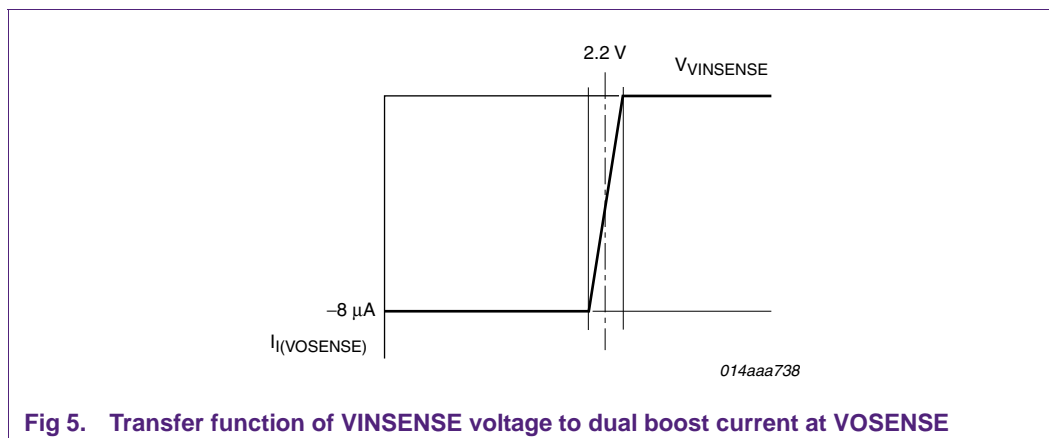

Fig 5. Transfer function of V\_INSENSE voltage to dual boost current at VOSENSE
The dual output voltage is controlled through an internal 8 μA current source at pin VOSENSE (see Figure 5). The mains input voltage measured at pin VINSENSE is used to control the internal current source. This current source, in combination with the resistors at pin VOSENSE, sets the lower PFC output voltage. At high mains, the current source is switched off. Therefore, the maximum PFC output voltage is not affected by the accuracy of the current source. In a typical application with a PFC output voltage of 350 V (DC) at high mains, the PFC output voltage will be 270 V (DC) at low mains. A voltage of 2.2 V at pin VINSENSE corresponds with a mains input voltage of approximately 180 V (AC). The steep slope in the transfer function will ensure stable switch-over of the PFC output voltage without hiccups.